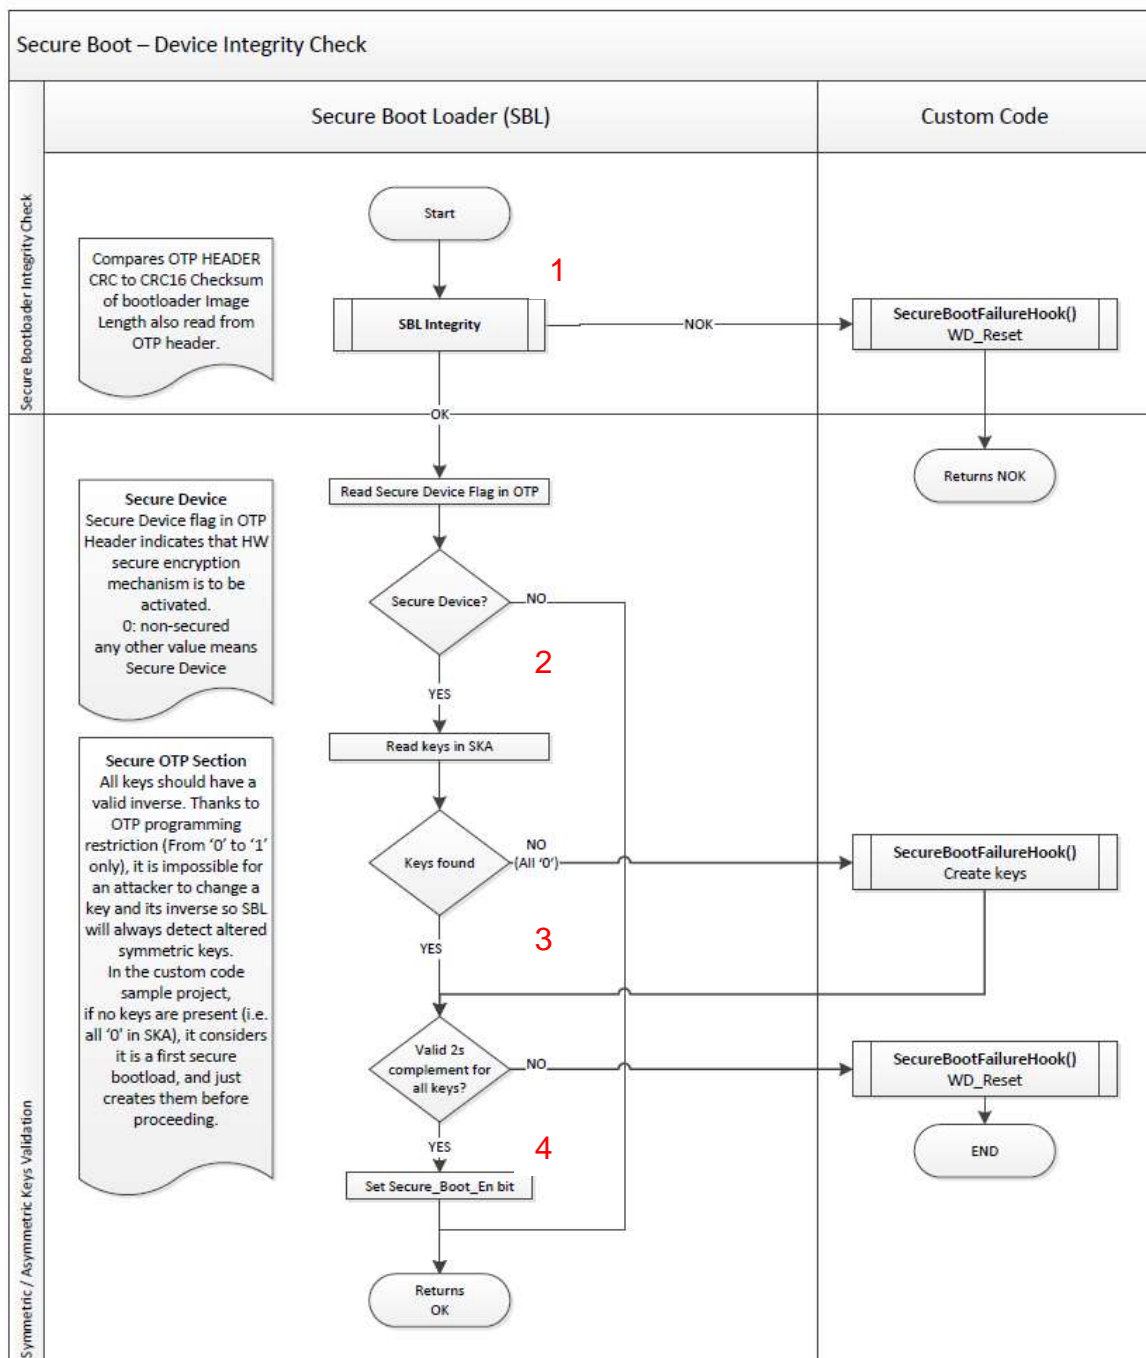

Figure 45: Secure Boot – Device Integrity Check
- “Device Integrity”, Figure 45, is a feature of Secure Boot which: